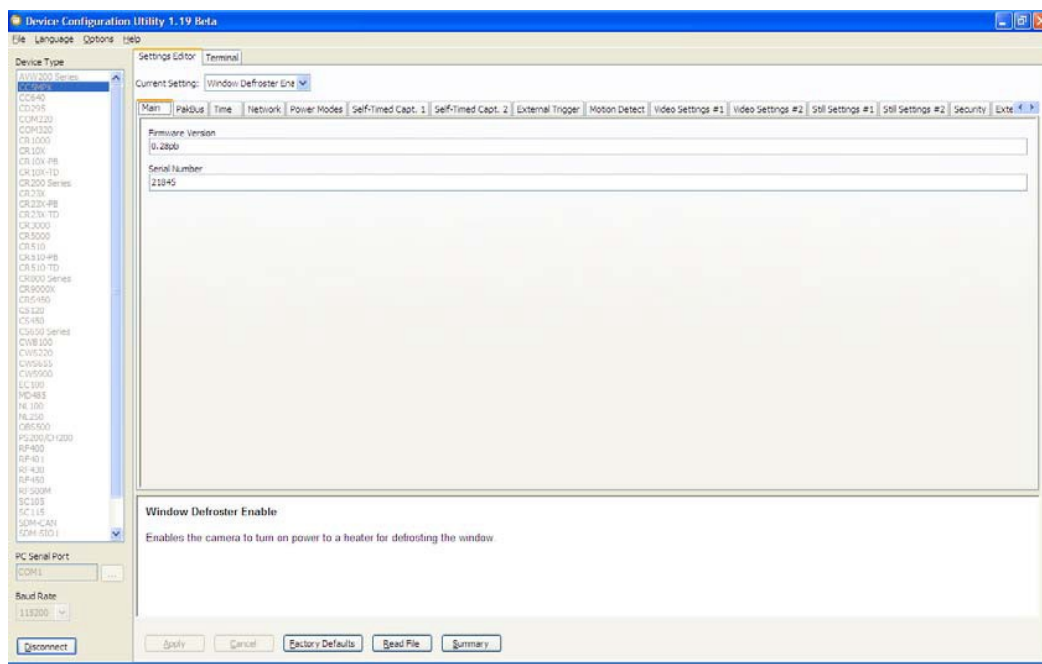

FIGURE 8-46. Device Configuration Utility Screen
- Once connected to the CC5MPX, use the tabs (see FIGURE 8-46) to navigate and configure the camera.